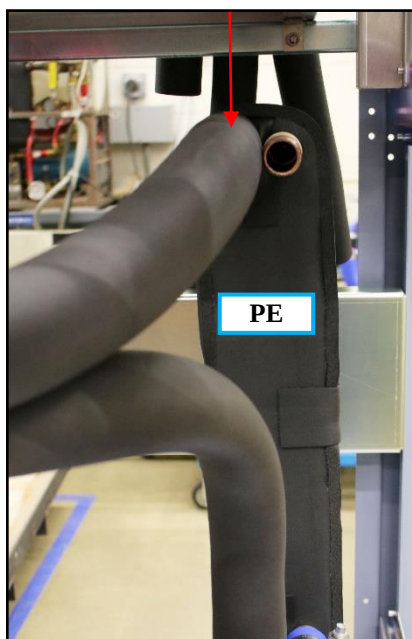

Figure 11a PE Port 'A' to PE HX top
- b. On opposite end of port 'A' hose, loosen and remove hose connection going to the top port of the heat exchanger (GE or PE heat exchanger). See Figure 11a & 11b